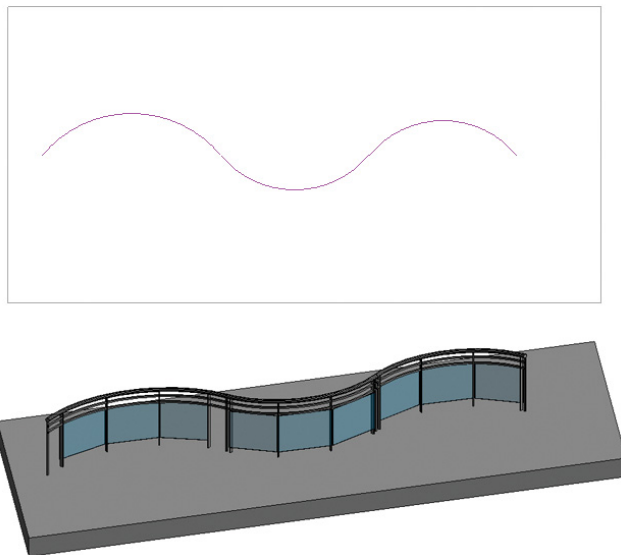

FIGURE 4.31 Curved railing sketch in elevation view
3. Create a curved sketch for the railing, as shown in Figure 4.31. Then finish the sketch by clicking the green check.
The railing now follows the path of the floor, even if you change the configuration of the railing sketch or the floor's slope direction. You can also swap out different railing types using the Type Selector; Figure 4.31 shows one of the other default railing types in Revit Architecture.